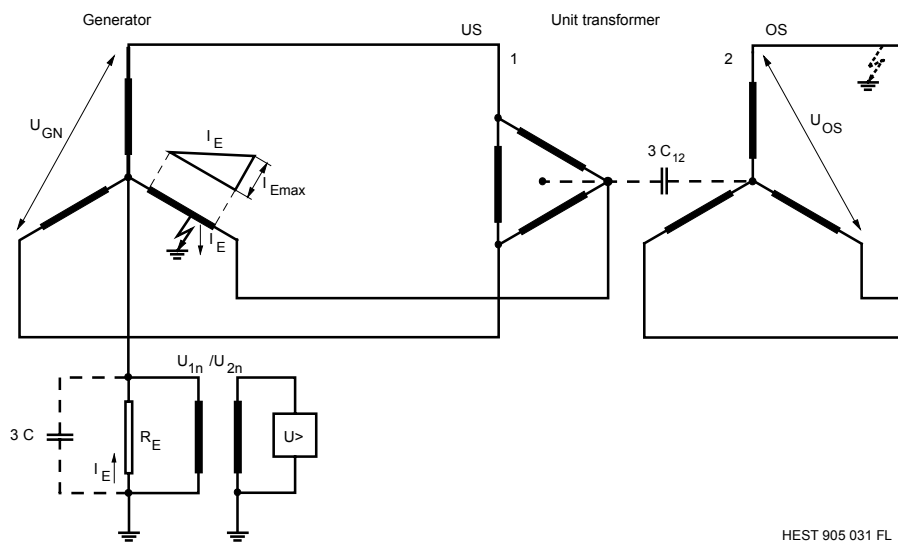

Fig. 3.5.10.4 Stator E/F protection with a grounding resistor at the star-point
1. Version with grounding resistor and v.t. (see Fig. 3.5.10.4)